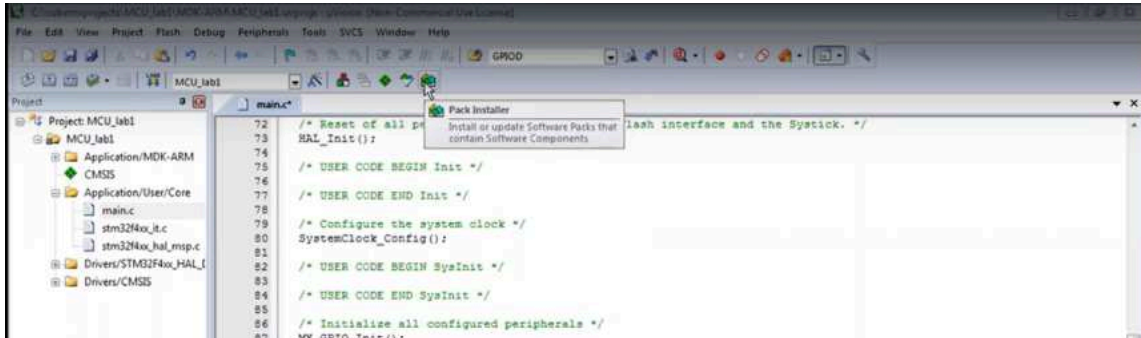
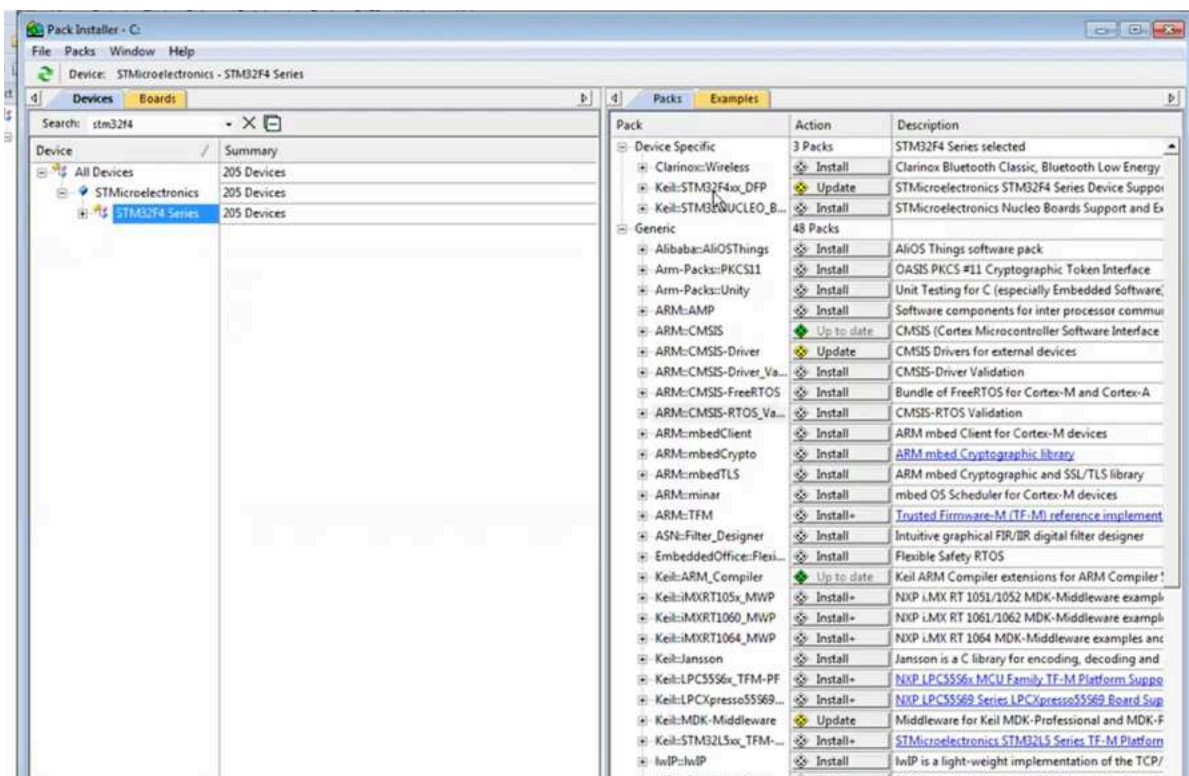

Figure 12
Figure 13
- First, you need to come to the Pack Installer (Figure 12) and install the package of the relevant microcontroller, as you did in CubeMx. The relevant microcontroller is selected from the 'Search' menu and 'Install' is selected for the required package(.....) (Figure 13).